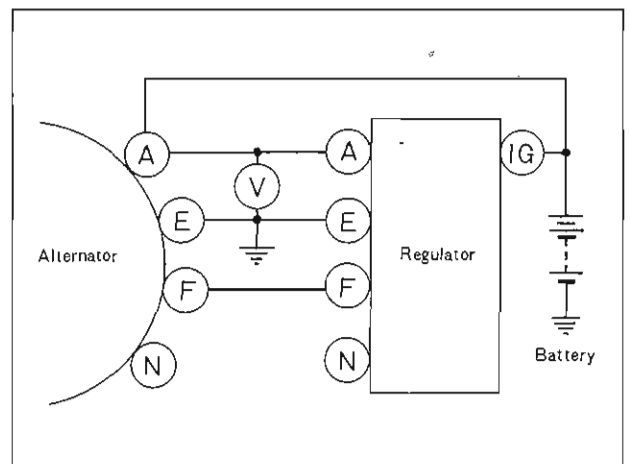

Fig. 5-16 Checking of constant voltage relay
To check, use an almost fully charged battery and connect a voltmeter between the (A) and (E) terminals of the regulator, as shown in Fig. 5-16.